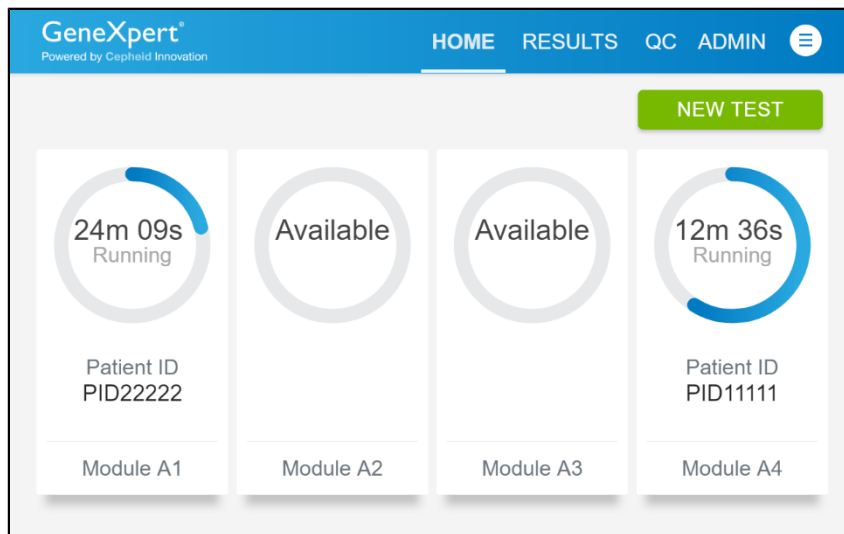

Figure 9. Home Screen Showing Two Tests Running
5. After a second test has started, touch the **HOME** button. The status of both tests appears. The Home screen displays the module(s) in use with a circular graphic indicator around each test, and Patient Identification below the module graphic (see Figure 9).
1. Touch the **RESULTS** button located on the panel at the top of the screen (see Figure 9 and 10). The Results screen appears (see Figure 11).